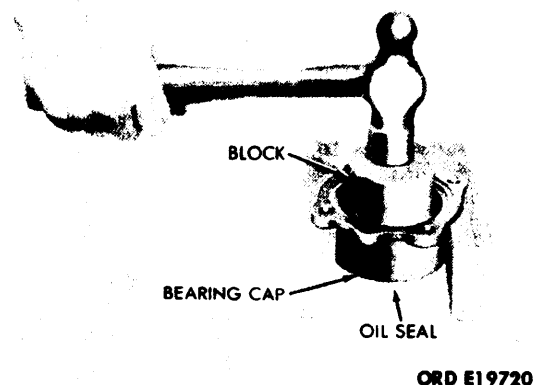

Figure 3-40. Removal of Mainshaft Rear Bearing Cap Oil Seal
d. Mainshaft Rear Bearing Cap. Using a round suitable block, drive the oil seal from the bearing cap. (See fig. 3-40.)